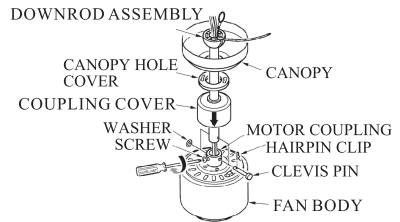

FIG.2
2. Insert the down rod through the center opening in the canopy, coupling cover and route the motor leads through the hanger ball/downrod assembly. Align the clevis pin holes in the downrod with the holes in the motor coupling. The clevis pin must pass through the holes in the motor coupling and the downrod. Place the washer onto the clevis pin and install the hairpin clip making sure to push straight leg of the hairpin clip through the hole near hanger ball to make sure the clevis pin is properly installed (See fig.2)